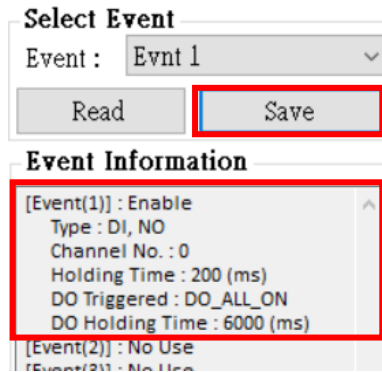

Figure 5.10.12
J. After setting, select “SAVE” to save as shown in Figure 5.10.12. Complete the list below to display the settings just made.